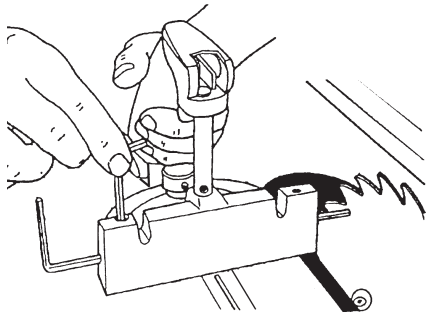

Figure 47
3. Insert the Long 5/32" Allen Wrench through the Miter Gauge. Borrow a Set Screw from the Lathe Tool Rest and use the Short 5/32" Allen Wrench to install it in either top Miter Gauge hole, as seen in Figure 47. Place the tip of the Long Wrench against the front side of the Saw Blade and tighten the Set Screw.